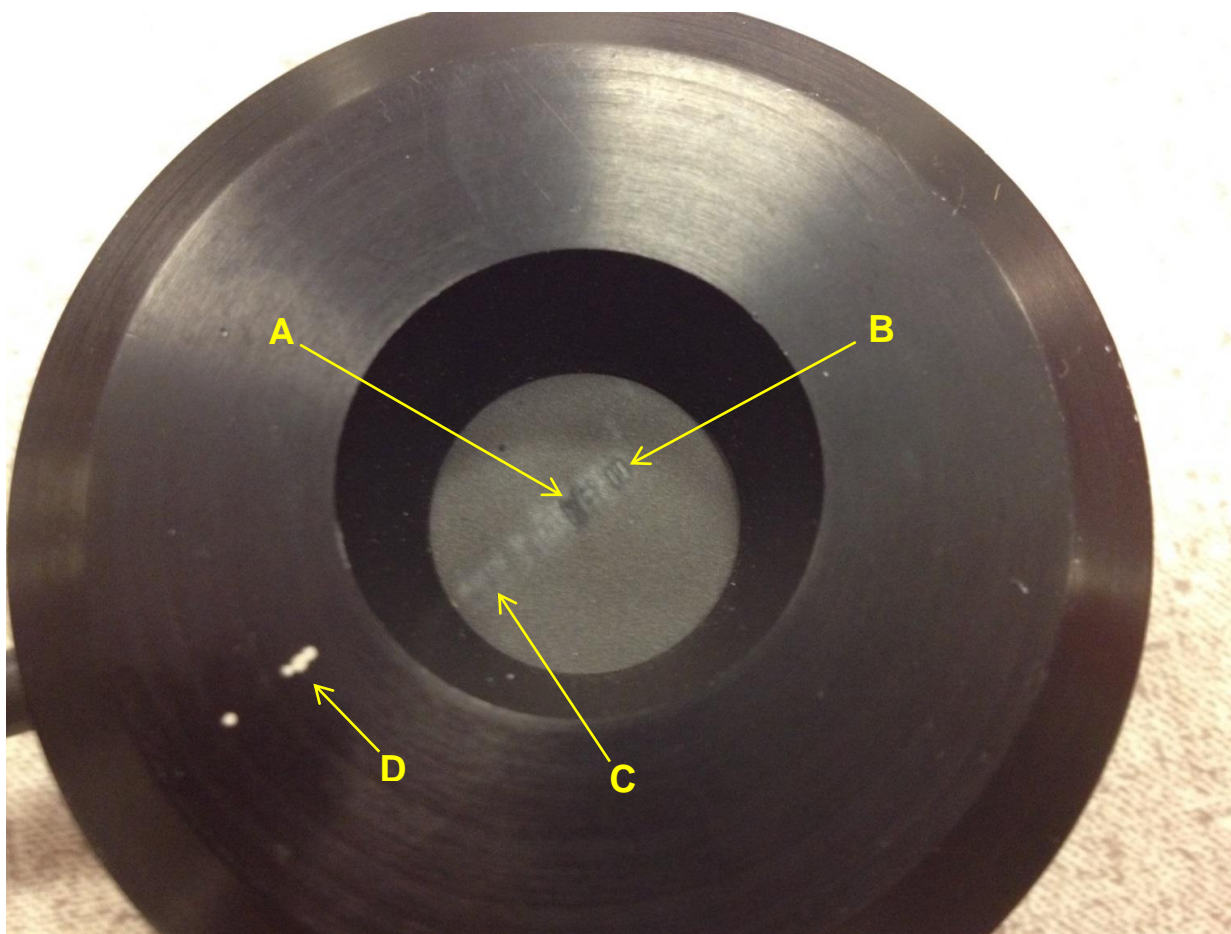

Figure 3: Thermopile near Its Damage Threshold While Moving Sensor during Measurement
- c. Figure 3: Thermopile near Its Damage Threshold Caused by Moving Sensor during Measurement